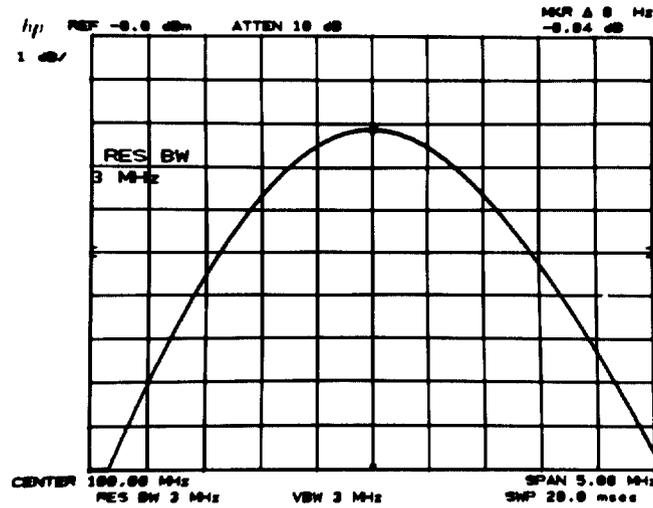

FIGURE 7. BANDWIDTH SWITCHING UNCERTAINTY MEASUREMENT
5. Key in settings according to Table 7. Press MARKER  at each setting, then read the amplitude deviation from the MARKER Δ readout at the upper right of the display (see Figure 7). The allowable deviation for each resolution bandwidth setting is shown in the table.